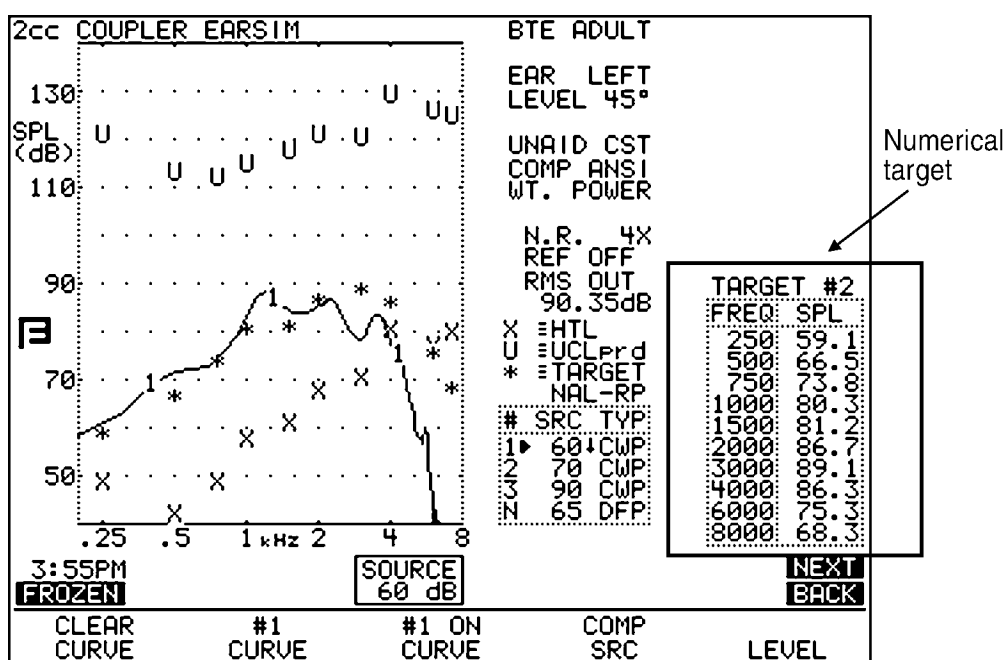

Figure 6.3.2—Numerical display of target data
6. Use [EXIT] to return to the Target Coupler screen. The target data will now be displayed. See Figure 6.3.2.